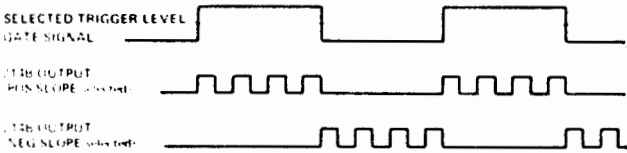

Figure 3-2 214B Outputs in Gate Mode
- a) with positive slope selected, the external signal is more positive than the selected trigger level (selected by EXT INPUT LEVEL control). See figure 3-2.
- b) with negative slope selected, the external signal is more negative than the selected trigger level. See figure 3-2.